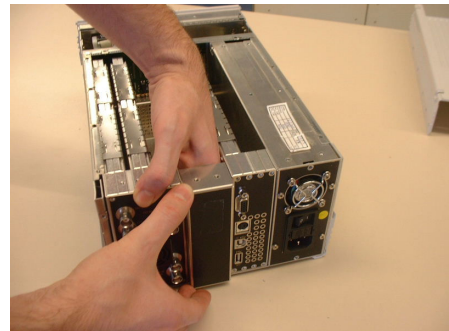

Figure 1-21
6. Pull duoblind out toward rear of instrument (see Figure 1-21).